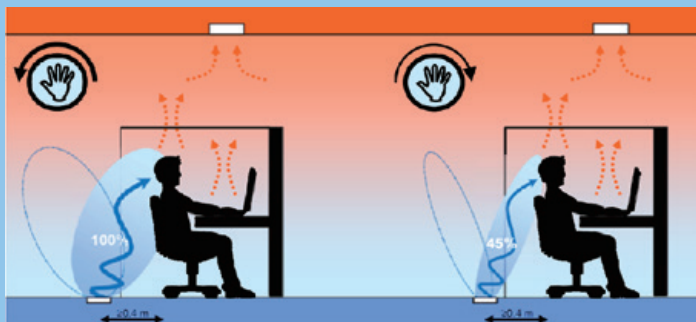

Figure 4
- **Option “E = Electrical VAV”** (figure 4)
- 6 Quiet operation: ≤ 36 dB(A) sound power level @ 25 Pa (0.100 in wg), depending on damper setting.
- Optional Configuration “E = Electrical VAV” (figure 4): 24 V, 2-10 V proportional electric VAV diffuser airflow rate modulation. User-adjustable discharge direction. Combined user-adjustable air pattern and airflow rate trimming.